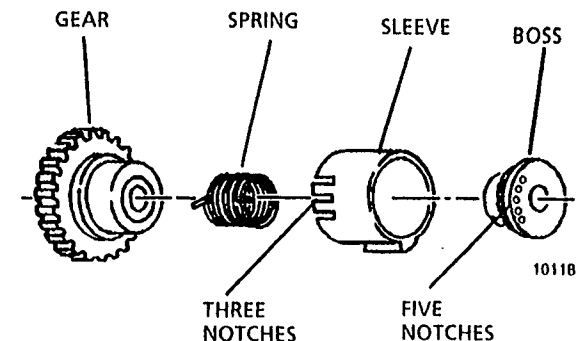

Figure 2. Removing the Boss, Spring, Sleeve, and Gear
3. (Figure 2): Remove the boss, spring, sleeve, and gear, as necessary.
2. (Figure 2): When reassembling the clutch, engage the spring in the middle notch of the five notches in the boss and the middle notch of the three notches in the sleeve.